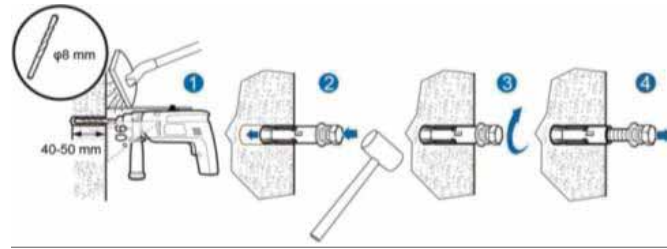

Figure 4.6 Install expansion bolts
(3) Fix the expansion bolts to the installation holes with hammer, as shown in Figure 4.6.